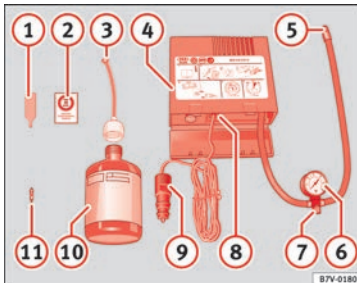

Fig. 69 Standard representation: contents of the anti-puncture kit.
- Unscrew the tyre valve cap and insert. Use the » Fig. 69 ① tool to remove the insert. Place it on a clean surface.
- Shake the tyre sealant bottle vigorously » Fig. 69 ⑩.
- Screw the inflator tube » Fig. 69 ③ into the sealant bottle. The bottle's seal will break automatically.
- Remove the lid from the filling tube » Fig. 69 ③ and screw the open end of the tube into the tyre valve.
- Place the insert back into the tyre valve using the tool » Fig. 69 ①.
- Screw the compressor tyre inflator tube » Fig. 69 ⑤ into the tyre valve.
- Check that the air bleed screw is closed » Fig. 69 ⑦.
- Insert the connector » Fig. 69 ⑨ into the vehicle's 12-volt socket » page 159.
- Turn the air compressor on with the ON/OFF switch » Fig. 69 ⑧.